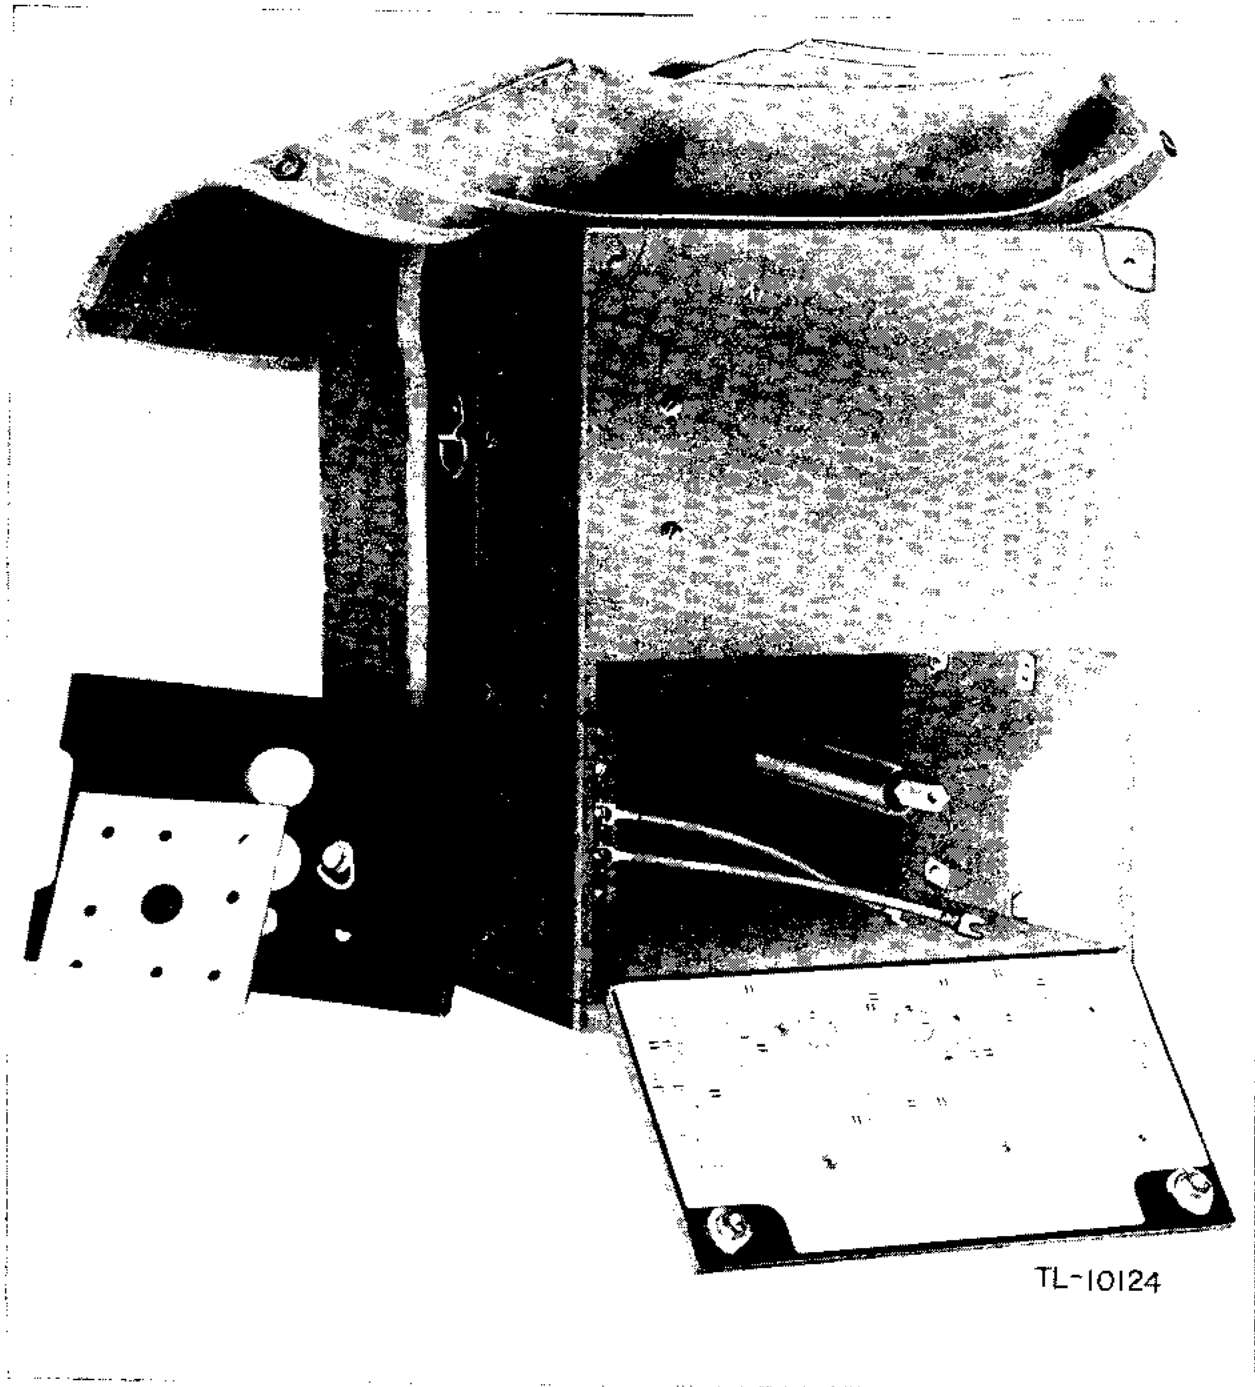

Figure 11. Battery compartment, wooden cabinet, showing fiber connecting board and A battery leads.
(3) The use of a fiber connecting board together with a wiring harness and battery retaining board as supplied with all wooden cabinet models with the exception of Frequency Meter BC-221-Q, b(1) above. These items are supplied with BC-221-AA (with wooden case), BC-221-AC, BC-221-AE, BC-221-AF, BC-221-AG, BC-221-AH, BC-221-AJ, BC-221-AK, and BC-221-AL. (See fig. 11.)